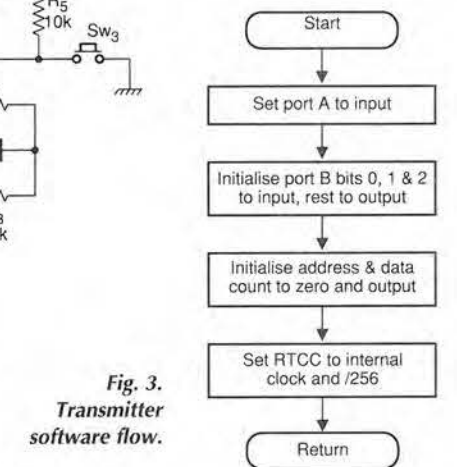

Fig. 3. Transmitter software flow.
Finally, the outputs will need to be set to their initial values and any variables, or file registers, initialised. The flow chart is shown in Fig. 3 and the corresponding code is shown in the full listing under the label INITP.
**Switch de-bounce.** A simple delay routine debounces the switches. This delay is derived from the rtc, which is set to increment via its internal clock through a 256 pre-scaler. The rtc register is cleared then the program loops until bit 7 of the rtc is set. Further flow charts are not shown here, but the complete program listing is given in Fig. 3.